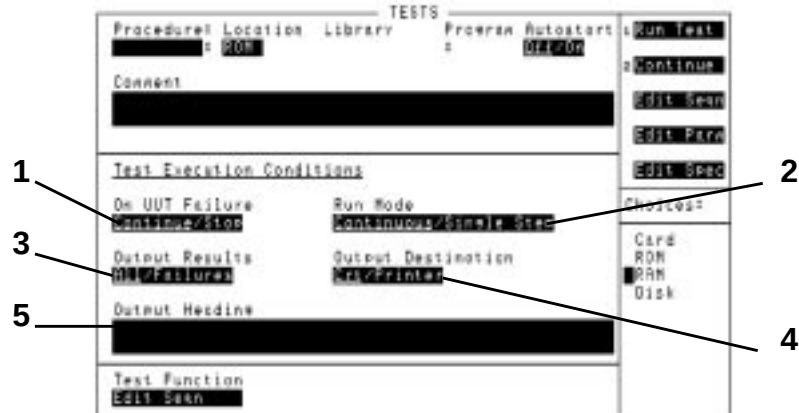

Figure 8-12 Test Execution Conditions
Five **Test Execution Condition** fields are shown in Figure 8-12 on page 8-30. Set up each field according to your testing needs.
Refer to item (1) in Figure 8-12 on page 8-30.
Refer to item (2) in Figure 8-12 on page 8-30.
Refer to item **(3)** in Figure 8-12 on page 8-30.
Refer to item **(4)** in Figure 8-12 on page 8-30.
Refer to item **(5)** in Figure 8-12 on page 8-30.